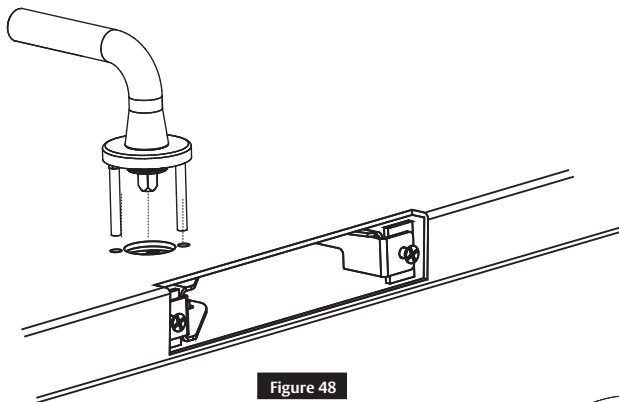

Figure 48
- Confirm the set screw moves from circle to circle in the LBC viewing window (Figure 48). Do not install the mortise lock at this time.